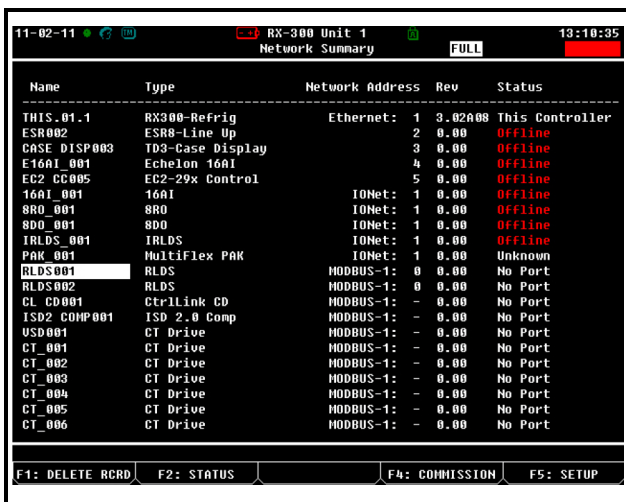

Figure 4-5 - Network Summary Screen
- Press to return to the Network Setup menu, then select **1** - **Network Summary** (Figure 4-5).